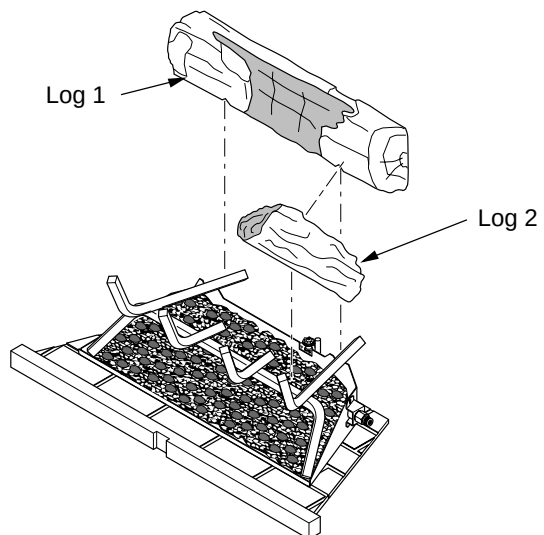

Figure 27 - Installing Logs 1 and 2
1. Place large back log (log 1) onto grate making sure notches rest over grate (see Figure 27).
2. Place log 2 onto front right side of grate and back of log 2 into notch on right front of log 1 (see Figure 27).